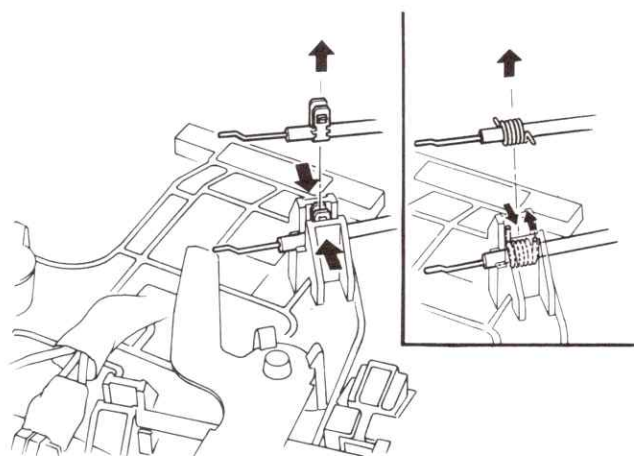

Fig. 11.5 Control cable clips at control lever end (Sec 32)
- 3 Refer to Figs. 11.5 to 11.10 and set the control flap ends of the cables.